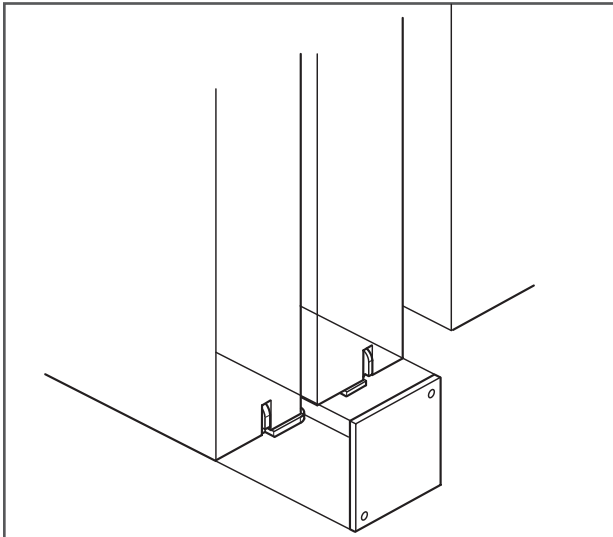

Figure 15
26. Position the End Plate on the bottom edge of the panel or door, aligning the plate with the side and bottom edges of the door (Figure 15).